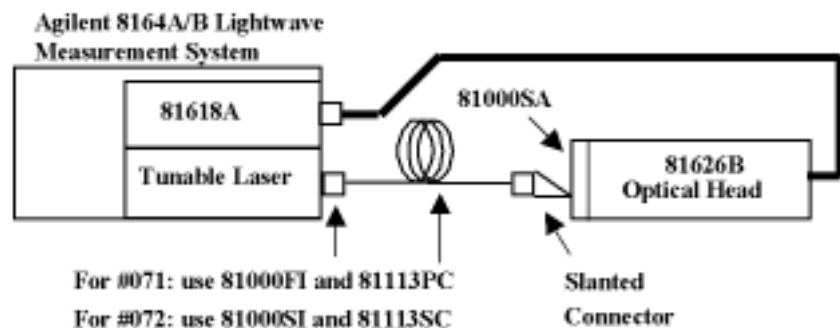

Figure 23 Test Setup for Maximum Output Power Tests
- 1 Set up the equipment as shown in Figure 23: